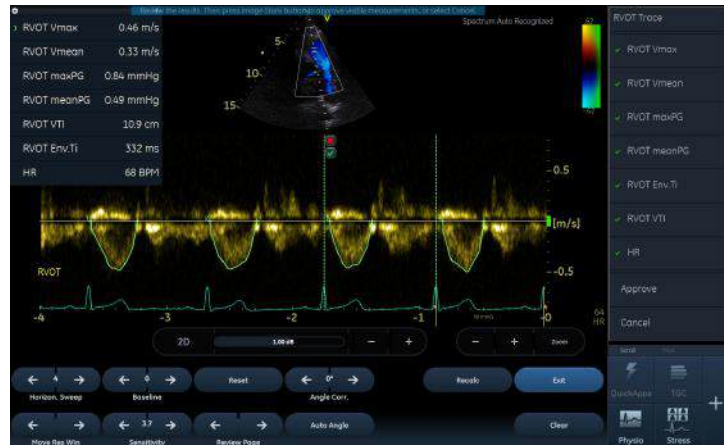

Figure 8-38. Reject or keep cycles
- When hovering over a cycle, the cycle can be rejected or exclusively kept by selecting the corresponding symbol, see Figure 8-38. Press the **Recalc** button to restore rejected cycles.